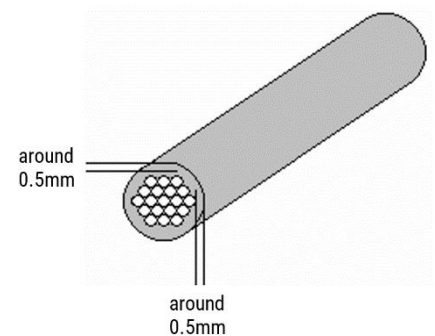

Figure 2
- Clean excess rubber off from cords to ensure uniform shape prior to cutting cords to length. Refer to figure 2.